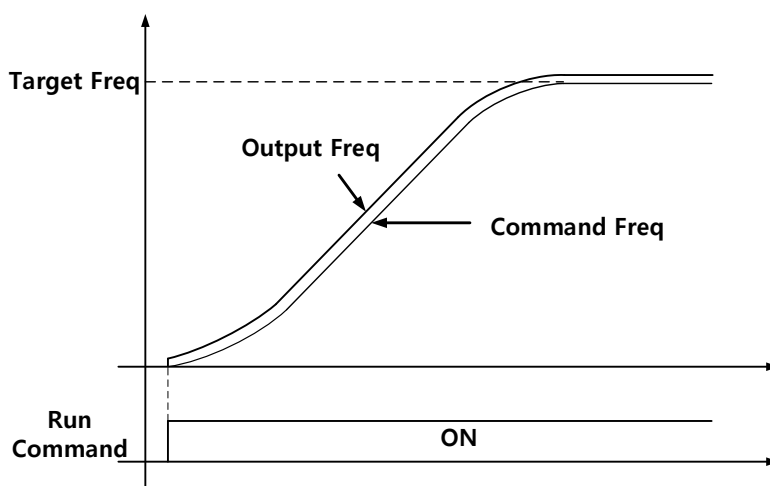
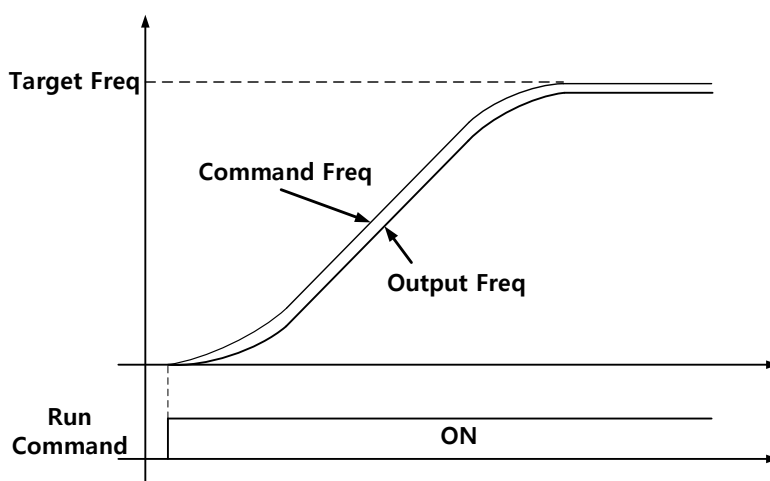

Fig. 6 Output Freq at Motoring Load
Fig. 7 Output Freq at Generating Load
- 2) [DRV-09 Control Mode] should be set to "Slip Compen". When [DRV-09 Control Mode] is set to "Slip Compen", command frequency and output frequency are output as figure 6 and figure 7 shown below according to the motor load. The frequency displayed on the initial screen of the keypad is the output frequency. The value of the command frequency plus the slip compensation frequency (command frequency + slip compensation frequency) is displayed during the motoring operation. During regenerating operation, the slip compensation frequency is subtracted from the command frequency (command frequency - slip compensation frequency).